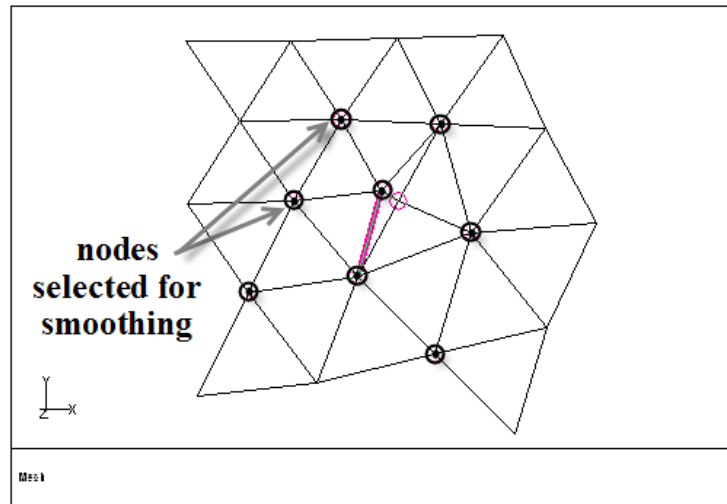

Figure 1.14: Face to be Modified with Node Smoothing
TGrid highlights a face located in the middle of one of the internal walls (Figure 1.14).
- (c) Select several nodes surrounding the face highlighted by TGrid (as shown in Figure 1.14).